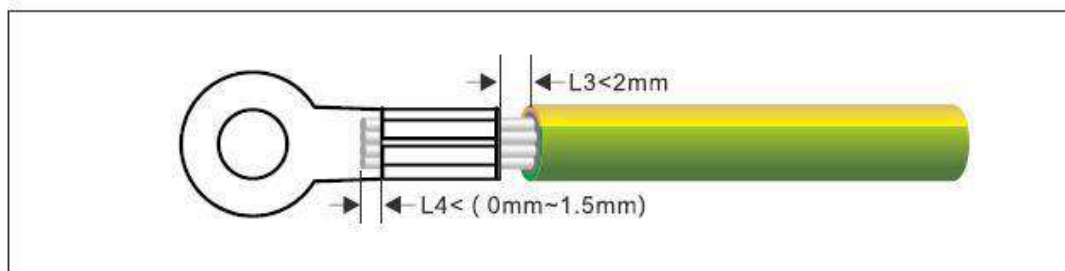

Figure 5.2 Crimping a cable (unit: mm)
Step 2 Insert the exposed core wires into the crimping area of the OT terminal and crimp them using hydraulic pliers, as shown in Figure 5.2.